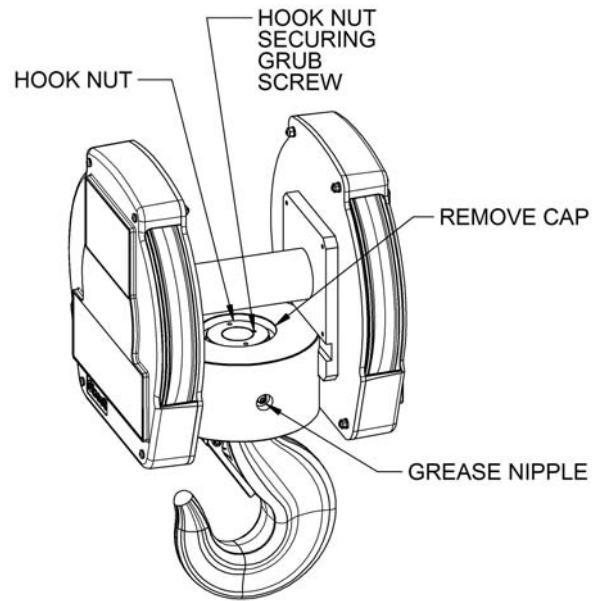
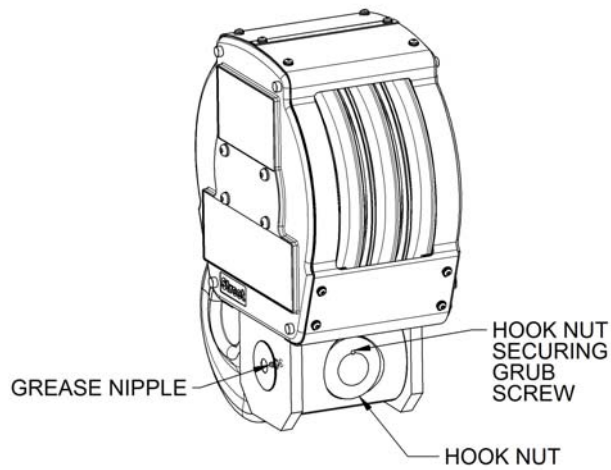

Figure 76 – 4 Fall Bottom Block, Hook Nut, Grubscrew, Grease nipple
Figure 77 – 2, 6 & 8 Fall Bottom Block, Hook Nut, Grubscrew, Grease nipple
- Check the security of the hook nut and it's securing grub screw, for 4 Fall remove cap to inspect see Figure 76. For 2, 6 and 8 Fall rotate the hook up to inspect, see Figure 77.
- Grease the hook thrust bearing as required in the lubrication schedule (see section 5.6.1 & Figure 76).